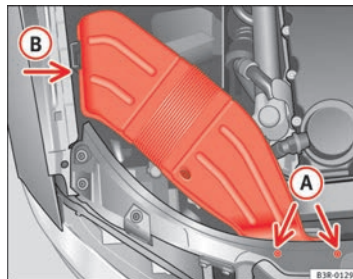

Fig. 200 Air duct on right side of vehicle
- Unscrew bolts **(A)** ⇒ page 268, fig. 200.